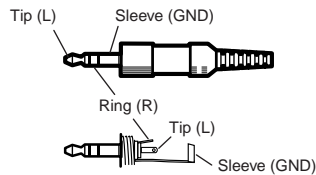
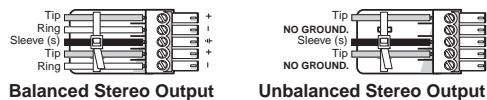

Figure 2-5 — 3.5 mm stereo audio plug
Figure 2-6 — Captive screw connector for wiring audio output
- Audio input connector** — Plug a 3.5 mm stereo plug into this jack for unbalanced audio input. Wire the plug as shown in figure 2-5. The number of inputs available varies with the switcher model.
NOTE When making connections to the switcher using existing audio cables, see figure 2-5. A stereo audio connector consists of a tip, ring and sleeve. The ring, tip, and sleeve wires are also shown on the audio output captive screw audio connector diagram, figure 2-6.
- Audio output connector** — Insert a 3.5 mm, 5-pole, one-piece captive screw audio connector into this connector. Wire the connector as shown in figure 2-6. Use the supplied tie-wrap to strap the audio cable to the extended tail of the connector.